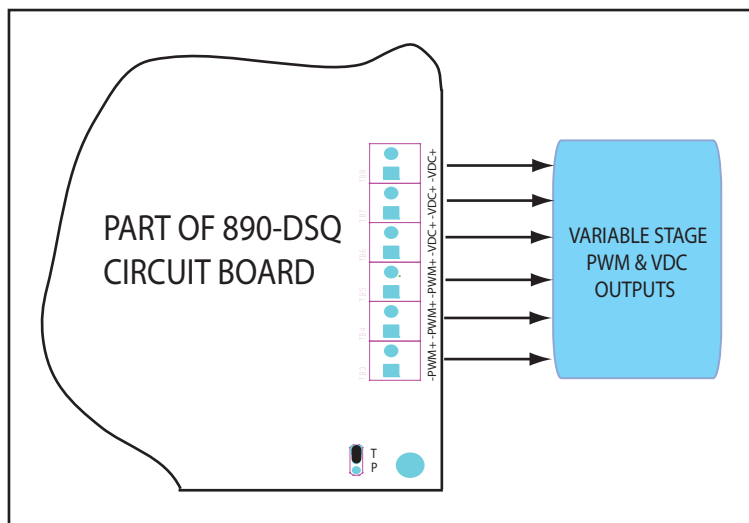

Figure 4
- 3) Refer to **Figure 4, Location of 890-DSQ Sequencer's Variable Stage Output**, (below), for the location of the sequencer's variable stage's PWM and VDC output terminals.